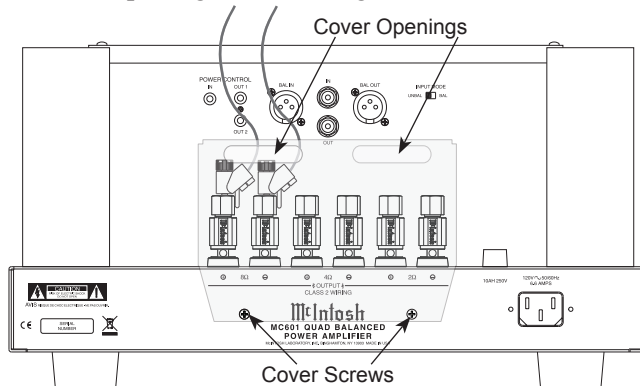

Figure 5 (Inside USA and Canada)
5. Locate the Terminal Connections Cover from the inside of the MC601 shipping carton. Insert the just prepared Loudspeaker hookup cables thru the cover openings. Refer to figure 5.
*Note: The illustration in figure 5 is connections for 8Ω (ohms) Loudspeakers.*
9. Attach the Terminal Connections Cover to the MC601 Rear Panel with the previously removed Screws. Refer to figure 5.